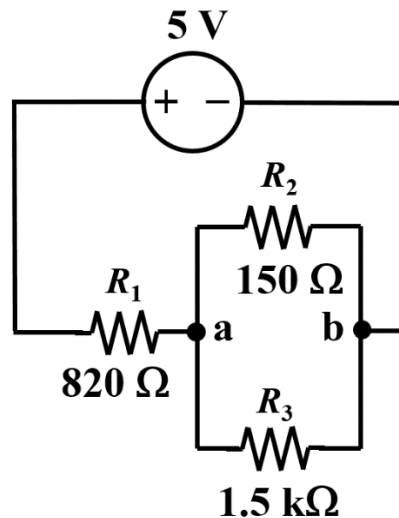

Figure 1. A simple electrical circuit containing a voltage source & resistors.
1. Wire the circuit as shown in Figure 1, on the breadboard. You should only connect the 5 V supply to the circuit **last**, after you have double-checked all the other circuit connections. The red and black wires of your USB breakout cable are represented here as the + and – terminals of the 5 V supply respectively.
- b. A convenient place to break the circuit is between the voltage source and the components. However, this does not work for resistors in parallel. Thus, if you are interested in knowing the current flowing through R_2 , you will break the circuit at point **a** (or **b**) shown in Figure 1 and insert the DMM between R_2 and point **a** (or **b**), treating the DMM just like another resistor in series with R_2 .
Table 2. Voltage and current of all resistors in Figure 1.